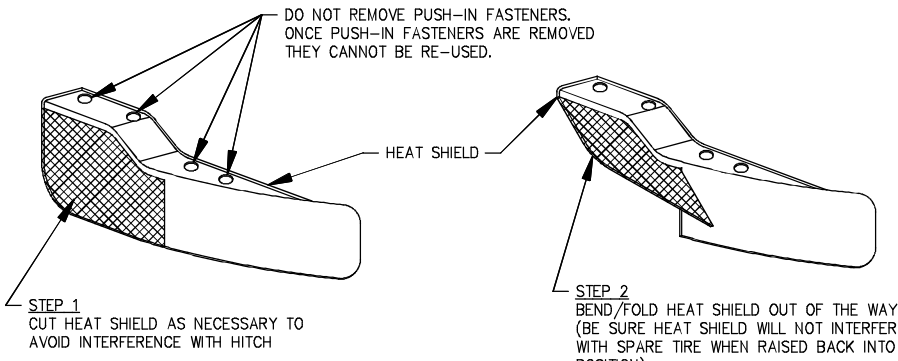

FIGURE 3
- MODIFY HEAT SHIELDS AS SHOWN IN FIGURE 3.